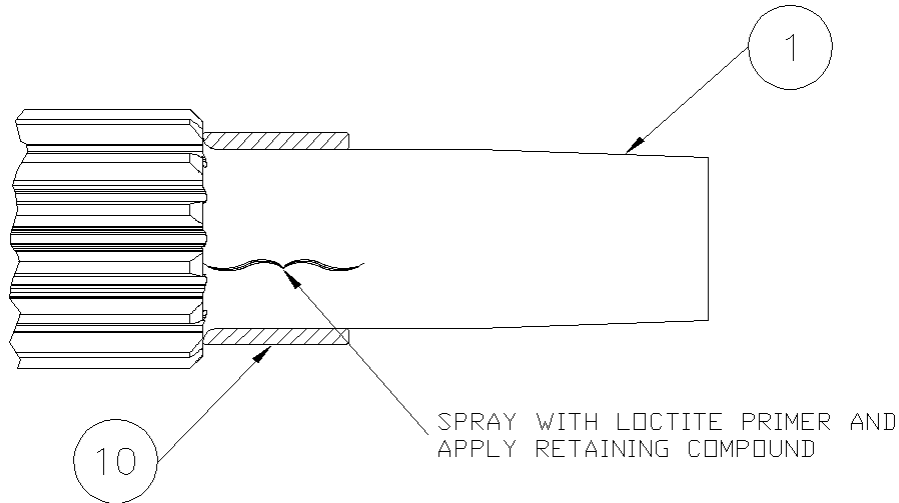

Figure C-3
3. Thoroughly clean the pinion shaft (1) ( Figure C-3 ) and inner races (10) with a mild solvent and dry completely. Spray the inner race contact area (shown in Figure C-3 ) at each end of the pinion shaft and the inside diameter of the inner race thoroughly with LOCTITE 7649 N PRIMER. Apply LOCTITE RETAINING COMPOUND 609 around the pinion shaft at contact area and the inside diameter of the inner races. Slide the inner races (10) on the pinion shaft (radius end first as shown in Figure C-3) until the races seat against the gear teeth. After the races seat against the gear teeth, twist the races on the pinion 360° to spread the retaining compound evenly. Wipe off any excess retaining compound.